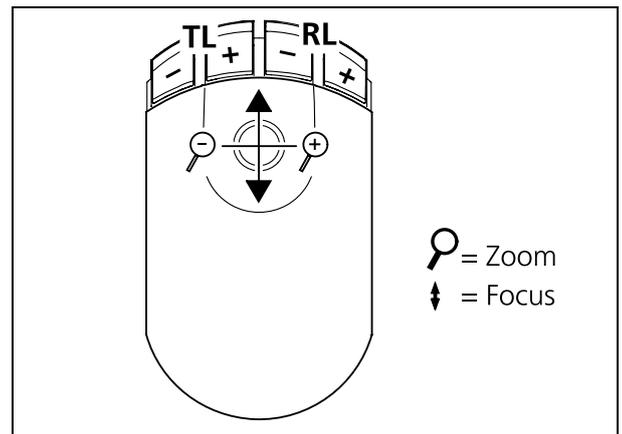

**Fig. 49** STOP button
- Push in the STOP button (Fig. 49/1) to switch off the focusing drive.